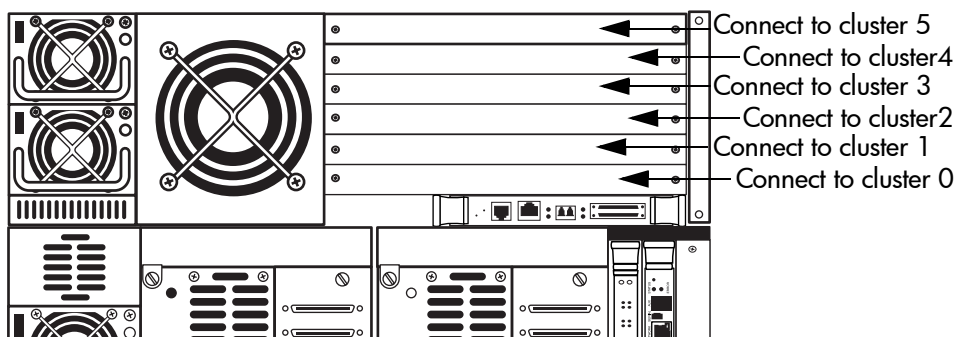

Figure 40: Identifying interface controller slots
2. Identify the proper slot in the card cage for the e2400-160 or e2400-FC 2G interface controller(s) (see Figure 40).